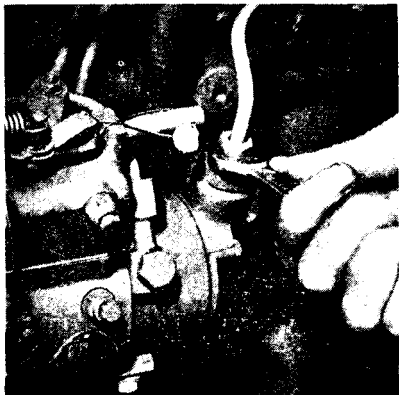

Fig. 10.
4. Slacken the pipe union nut (see fig. 10) at the pump inlet, operate the priming lever and retighten when fuel, free from air bubbles, issues from around the threads.